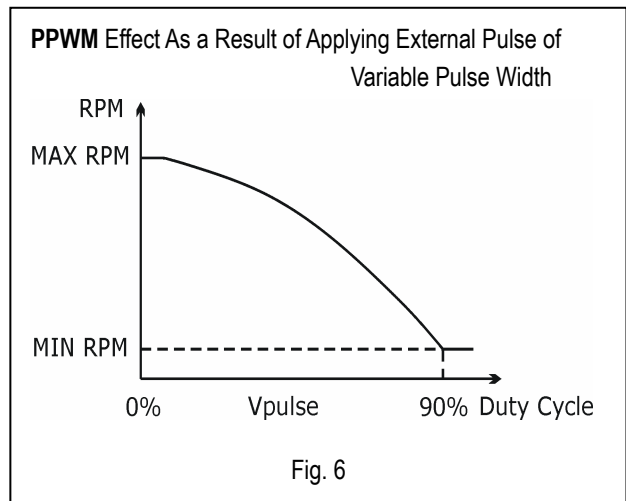

Fig. 6
- **PPWM:** by applying pulse width modulated signal from an external source at the frequency of 300~400 Hz. (See Fig 6)